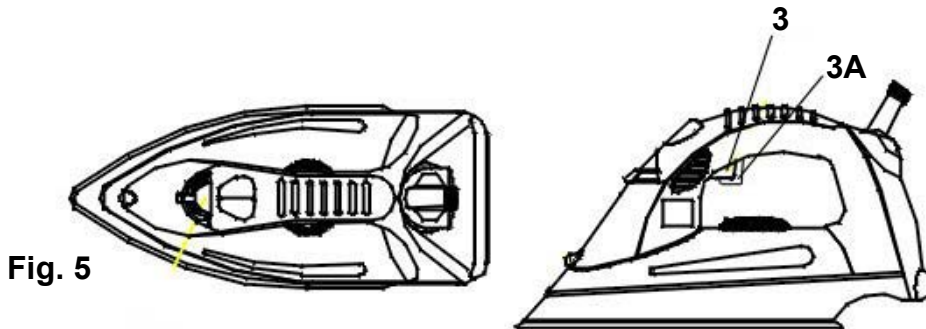

Fig. 5
- Activate the water pump by pulling on the trigger (3). (Fig. 5)